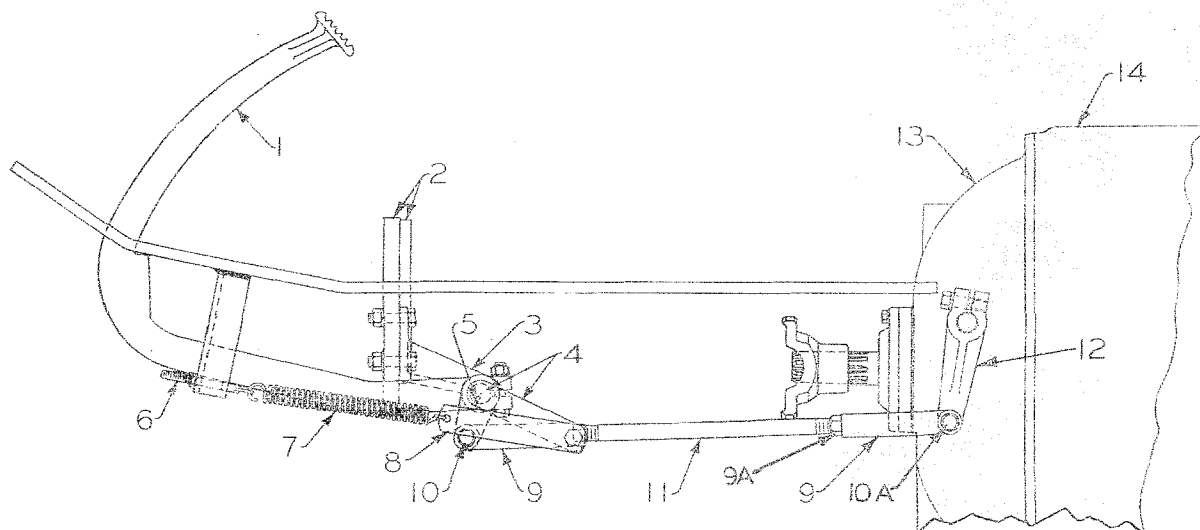
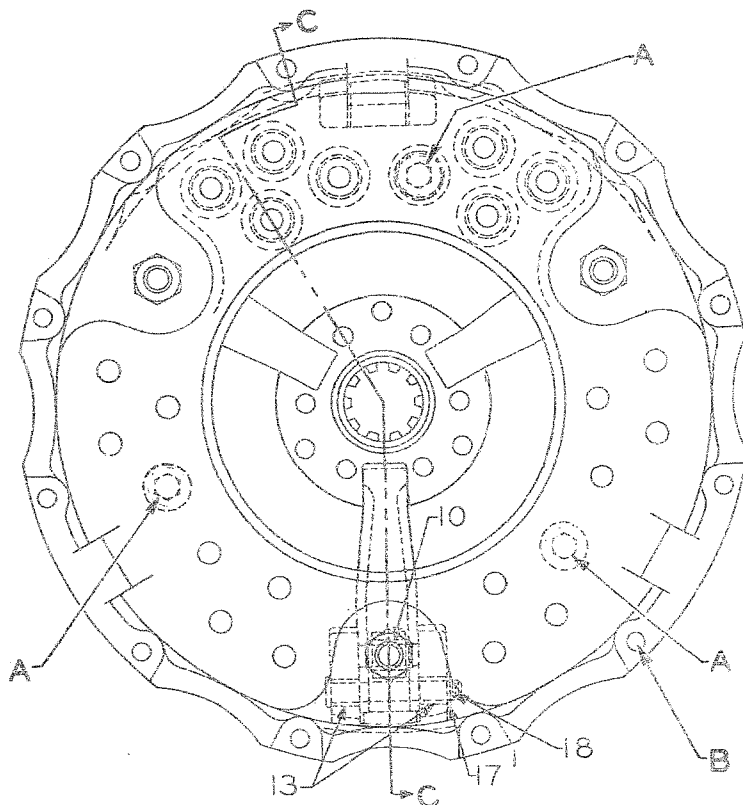
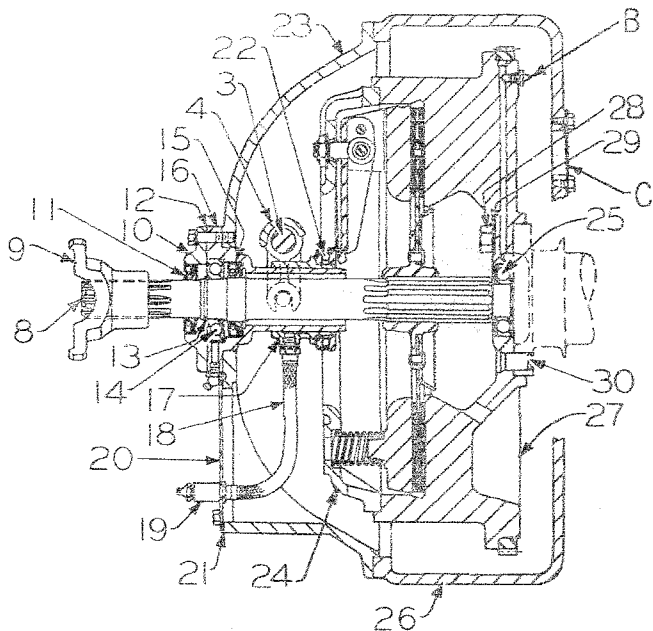
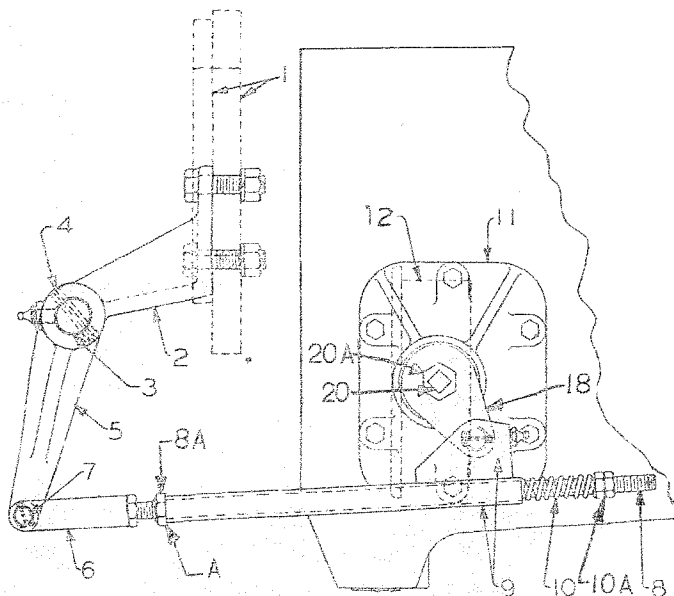

Figure 91. Clutch Operating Linkage
Figure 93. 15" Clutch (back view)
Figure 94. Clutch Compartment
Figure 95. Clutch Brake
(See Fig. 91)
(1) First inspect the clutch pedal linkage.
(2) Spring (7) must have sufficient tension of its own to lift the pedal (1) clear up to the floorboard without pulling it up with your hand. If you can lift the foot pedal (1) upward against the floorboard with your hand, then the tension of the spring (7) should be made tighter, or the linkage parts (3), (4), (5), (9) and (10) may be binding and require oiling to loosen them up.
(3) Make certain this return action is positive even with a slow foot action.
(4) Be sure the clutch shaft lever (12) is located on the shaft so that it does not strike the transmission bell housing either in released or full engaged position of clutch. The pin end of lever (12) slants toward the foot pedal (1) when the pedal is in highest position. This is shown above, and the pedal (1) is in the raised and released position.
(5) The clutch itself, however, is in fully engaged position, and there is ample clearance between the clutch throw-out bearing (22), Fig. 94, and the clutch fingers (12), Fig. 92, to permit the clutch to operate satisfactorily, unless abused.
(1) To adjust clutch, first loosen lock nut (9A), Fig. 91, remove pin (10A), screw forked yoke onto the rod (11) about two turns, and reinstall pin (10A). Do not reinstall the cotter pin thru pin (10A) or tighten the lock nut (9A) at this time. Instead depress foot pedal (1) and observe if the first free easy movement is about 2-1/2". If it is 2-1/2", then replace the cotter pin and tighten lock nut (9A), because it is adjusted correctly.
(2) If the first free easy movement is more than 3", then you have shortened the rod (11) too much, and the clutch will not disengage properly. This will result in gear clashing.
(3) To test and find out if the clutch is disengaging properly, stop the engine, have someone depress the clutch pedal to within 3" of the floorboard. Then try to turn the propeller shaft yoke (9), Fig. 94, with your hands. If it turns freely you can consider the clutch linkage is adjusted correctly and that the clutch is properly disengaging.
NOTE: When the clutch pedal is depressed to the floorboard, you cannot turn the yoke (9), Fig. 94, easily, because the transmission clutch brake is applied. Raising the clutch pedal about 3 inches will release the transmission clutch brake. (See page 82 for clutch brake.)
Do not disturb the factory setting of the three nuts (8), Fig. 92, inside the clutch housing, as these have been properly set at the factory, and without special tools it is impossible to obtain perfect alignment and adjustment. The only field adjustment necessary is in the outside linkage (rod and fork (11) and (9), Fig. 91). Never make any adjustment of the three nuts (8), Fig. 92.
(1) Clutch throw-out bearing (22), Fig. 94, is lubricated thru the exposed high pressure fitting (19), extending thru the plate (20). Do not over-lubricate this clutch throw-out bearing. Usually it only takes one, and not more than two strokes or pressure gun to replenish grease.
(2) Clutch pilot bearing (25), is lubricated thru an inspection opening (C), located at the front side of the flywheel housing. Rotate flywheel until lubrication fitting (B), in the flywheel, is visible. Consult lubrication chart, page 10, for frequency of servicing operation.
(3) Warped and cracked pressure plates and prematurely worn facings indicate excessive heat, and are generally caused by excessive clutch slippage, or over-greasing. In cases where too much lubricant has been applied accidentally, causing temporary slippage, wash the entire clutch compartment with kerosene to remove all traces of grease.
(2) To Remove Clutch: (See Fig. 94)
(b) Remove the cotter and pin at the lower end of lever (12), Fig. 91.
(c) Remove the inspection door (20), Fig. 94. Remove nipple (19) from hose (18). Unscrew hose (18) from shifter yoke (17).
(f) Packed in the tool box will be found three, 3/8" x 2-1/2" N.C. cap screws with plain washers, and these should now be screwed into the three holes located in the pressure plate at (A), Fig. 93. These screws will compress the twenty-four clutch springs (15), Fig. 92, and keep the clutch group assembled during clutch removal.
(g) The 12 cap screws at (B), Fig. 93, may now be removed, after which the clutch drive member group may be lifted out of the bell housing.
(1) General:
(a) The driven member (19), Fig. 92, with shaft (8), and parts (23), (16), (10) and (14), Fig. 94, may be temporarily assembled to the bell housing. The clutch group (1), Fig. 92, should not be assembled to the flywheel at this time. The hub (25) may be held solidly to the splined shaft if it is tapped slightly on the spline taper farthest away from the flywheel.
(b) A dial indicator may be attached to the flywheel with one cap screw (B), Fig. 93. The dial indicator may be read thru cover opening (20), Fig. 94.
(2) To Install Clutch:
(a) Replace clutch pilot bearing (25), Fig. 94, if worn, keeping the bearing seal away from the crankshaft flange. Lubricate the bearing at point (B).
(g) Enter shaft (8) with sleeve (16) into bell housing. Slip cap (10) over shaft (8) and install cap screws in cap (10). Remove the cap screws (A) Fig. 93.
92. CLUTCH BRAKE. (See Fig. 95)
(2) The internal brake consists of a drum (12), 5" in diameter, which is spline driven. A lined brake shoe and internal screw arrangement (18), together with external linkage, is interconnected to the clutch foot pedal (1), Fig. 91. When the foot pedal is pressed to the floorboard, the linkage moves lever (18), Fig. 95, to the left, and the threaded screw moves the lined shoe against the internal drum.
(3) When the engine is running full throttle and brake properly adjusted, and pedal (1), Fig. 91, is depressed to the floorboard, the transmission gears will come to a rolling stop in about three seconds.
NOTE: Levers (5) and (18), Fig. 95, and interconnecting linkage are shown in released brake position.
(1) First adjust the main clutch, page 79, paragraph 91.-a. and b.